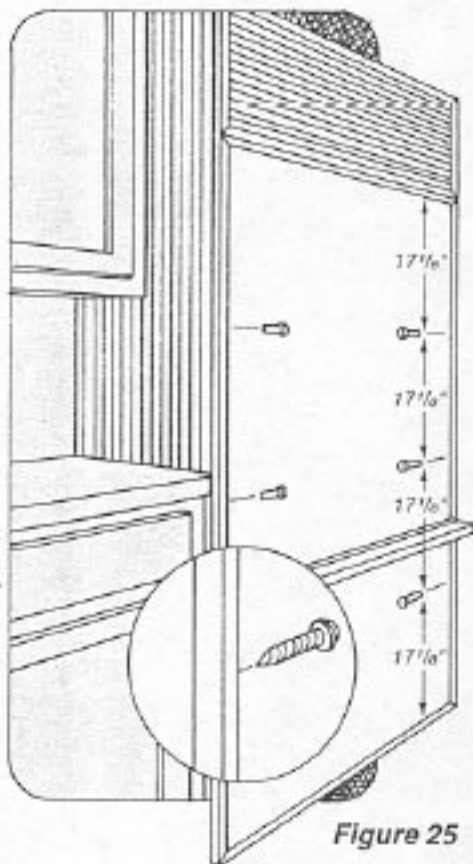

Figure 25
Instructions for fastening Models 501R, 501F, 550, 511, 561, 532, 542 and 590 to cabinetry (see Figure 25):
1) Drill three (3) $\frac{3}{16}$ " holes (per specs in Figure 25) through both outer trims.
3) Install all six (6) Sems.